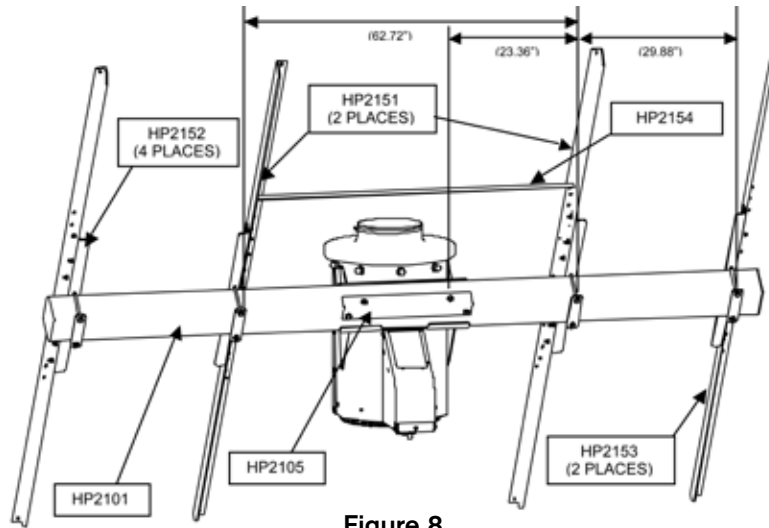

Figure 8
13. Center the 6" X 6" cross arm tube onto the cross arm side support shell assembly. Ensure the hole pattern on the cross arm tube lines up with the hole pattern on the support shell assembly. Install the beam clamp bracket on the cross arm tube using four 1/2"-13 bolts, flat washers, lock washers and hex nuts from the cross arm mounting hardware package. See Figures 8 & 9.
14. Install the four cross arm/wing mounting brackets onto the cross arm tube using the 1/2"-13 X 7-1/2" bolts, flat washers, lock washers, and hex nuts with the cross arm/wing mounting plates. The brackets should be located and oriented as shown in Figure 8 (dimensions shown are for Motech 235W solar panels). Temporarily leave the bolts loose.
15. Install the two solar panel/inverter support rails onto the mounting brackets closest to the sun tracker assembly. Ensure the rails are oriented as shown in Figure 8. Attach using seven 3/8"-16 X 1-1/4" bolts, flat washers and nuts on each rail.
16. Attach the cable support to the rails using 5/16" X 7/8" bolts, flat washers, lock washers and hex nuts. See Figure 8. Once installed, verify the location of the cross arm/wing mounting brackets and tighten the 1/2"-13 X 7-1/2" bolts for the two inner rails that were left loose in Step 14.
17. Install the two solar panel support rails onto the mounting brackets furthest from the sun tracker assembly. Ensure the rails are oriented as shown in Figure 8. Attach using seven 3/8"-16 X 1-1/4" bolts, flat washers and nuts on each rail. Leave the remaining 1/2"-13 X 7-1/2" bolts loose until the solar panels have been installed.